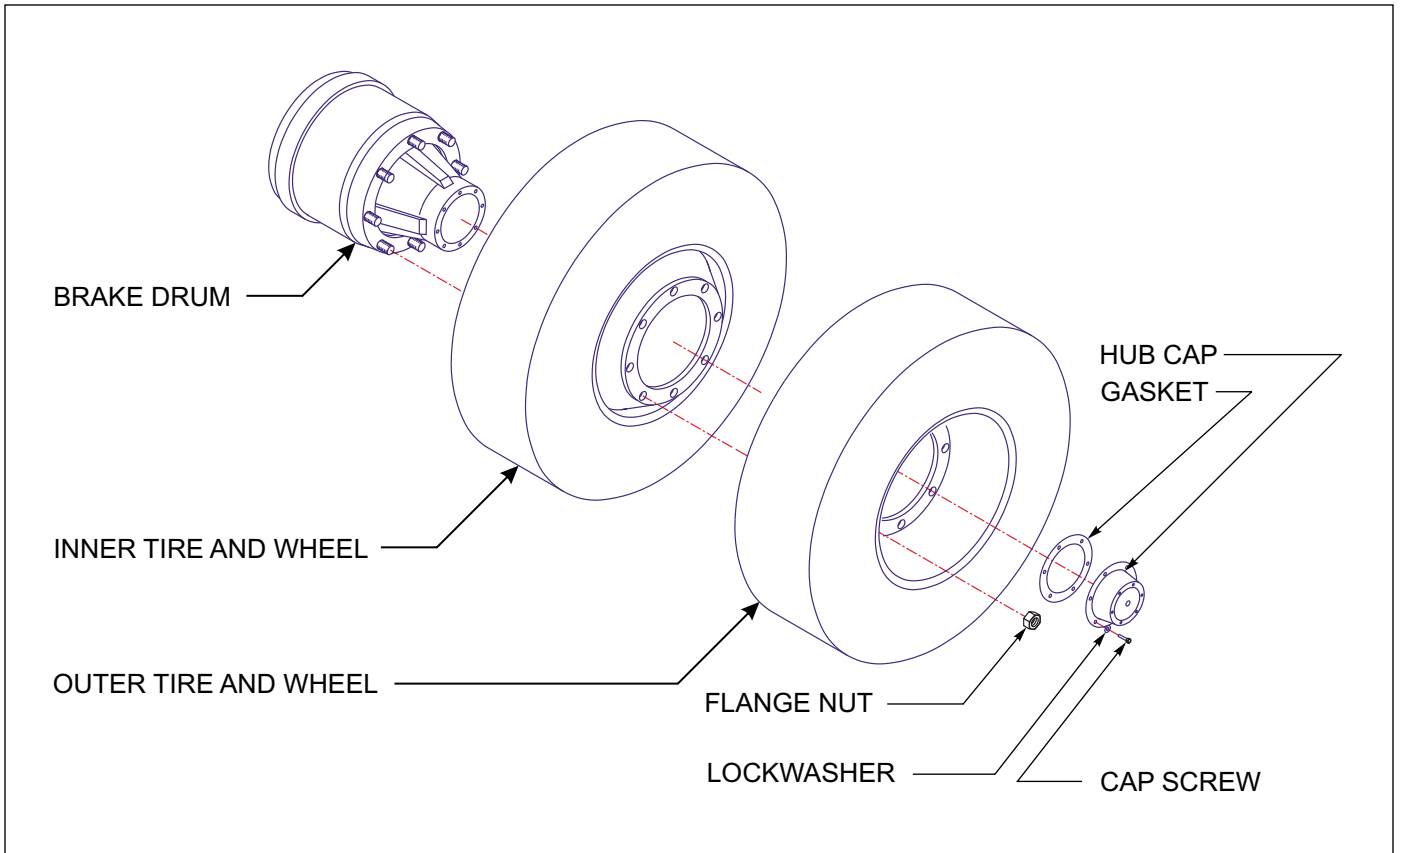

Figure 4-15: Mounting Tires & Wheels
1. Make sure that all mounting surfaces are clean and free of rust, dirt or paint. A wire brush may be used to clean these surfaces (*See Figure 4-15.*)